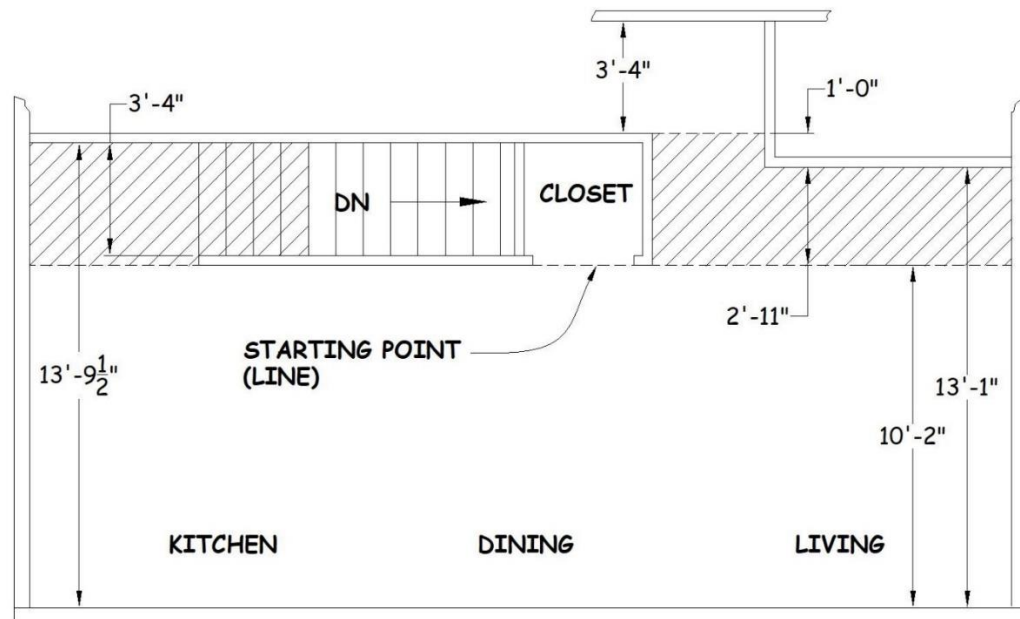

Figure 13-2. Determining the Starting Point Along Interior Common Area Walls.
1. If these rooms have off-set and parallel interior walls, determining the optimum sheetrock widths can be difficult. The challenge is to determine the starting point. The starting point is a line parallel to the exterior wall that defines the end of the interior wall pieces and the beginning of the first full width row of sheetrock. If a starting point has not been pre-determined, follow the instructions below as they relate to the example provided in Figure 13-2 (where the cross-hatching indicates the first row of sheetrock).
3. Examine the plan drawing with added dimensions. Starting with the interior wall furthest from the exterior wall, determine if a full width sheet will work there. (In Figure 13-2, a full width sheet would result in less than a 16" width along the interior stairway and closet wall).
4. If a full width sheet cannot be used, use the plan drawing to evaluate another option, e.g. a 2' piece or a 3' piece. (In Figure 13-2, a 2'-11" piece installed along the interior bedroom wall will provide a good starting point. It satisfies the 16" minimum width along the interior wall and the 12" minimum width along the exterior wall. The width along the exterior wall will be 2'-2", i.e., 10'-2" minus two full width rows.).